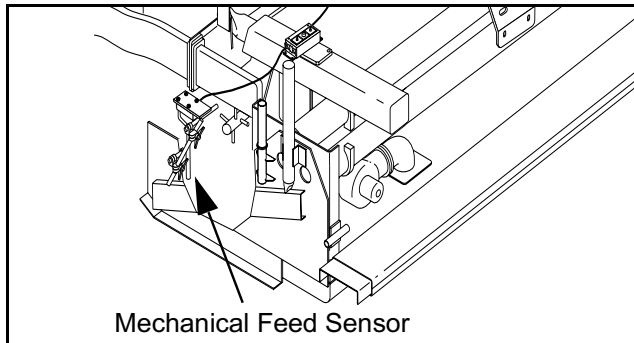

Figure 4 - 26 Mechanical feed sensor
- 6) If a mechanical feed sensor is used, clean the wand with solvent and wipe any asphalt off of the feed controller with a cloth dampened with solvent. (Figure 4 - 26)